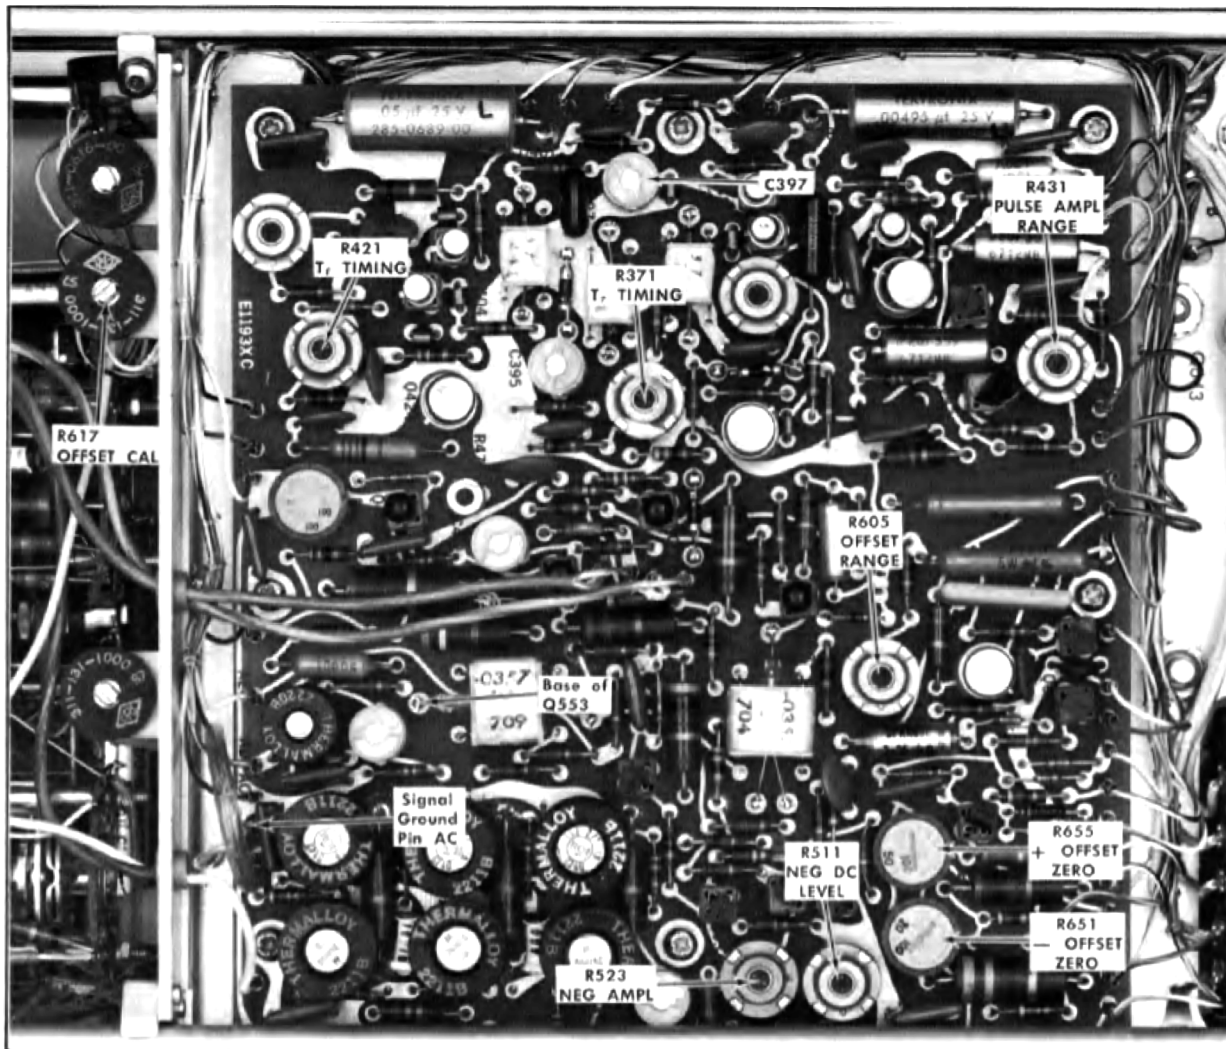

Fig. 5-8. Bottom circuit board: Location of adjustments in steps 9 through 15.
- e. ADJUST—R605, OFFSET RANGE adjustment, (see Fig. 5-8) if the pulse baseline is not correct.
- f. ADJUST—R655, + OFFSET ZERO adjustment, (see Fig. 5-8) if the baseline level is not correct.
c. ADJUST—R431, PULSE AMPL RANGE adjustment, (see Fig. 5-8) for a pulse amplitude of 10 volts.
d. ADJUST—R523, NEG AMPL adjustment, (see Fig. 5-8) for an amplitude of the negative-going pulse of 10 volts.
i. Connect the Channel 2 probe tip to signal ground (see Fig. 5-8).
j. Connect the Channel 1 probe tip to the base of Q553 (see Fig. 5-8).
n. ADJUST—R511 NEG DC LEVEL adjustment, (see Fig. 5-8) if the display is not correct.
v. ADJUST—R651, — OFFSET ZERO adjustment (see Fig. 5-8) if the zero offset is not correct.